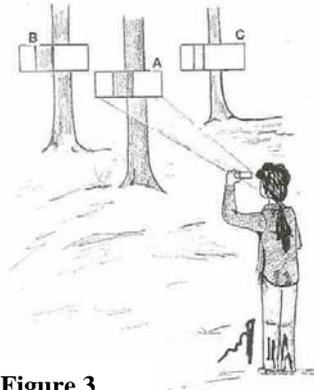

Figure 3
- at point, you may want to poke a flagged stick into the ground (temporarily) to call the point, hold prism over the point and look at trees in a circle around the point. (see **Figure 3** above)